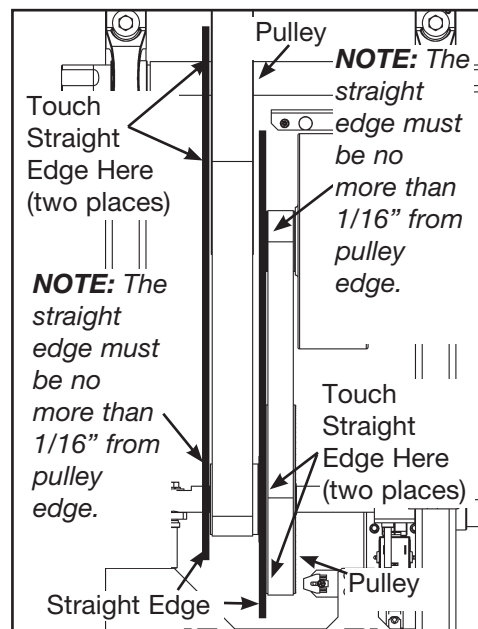

Figure 10
- H. Using a straight edge, verify that both pulleys are aligned properly. See Figure 10. **NOTE:** The straight edge must be no more than 1/16" from pulley edge.